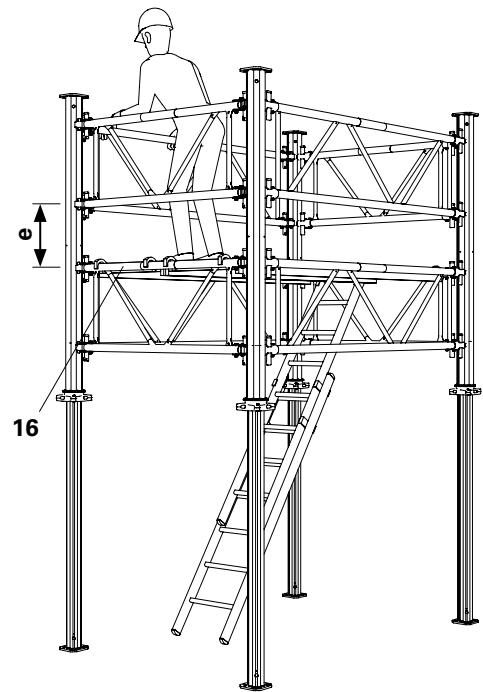

Fig. A4.03
- In order to mount the next prop and frame level, an assembly level (**16**) must be installed, e.g. MULTIPROP Decking. (Fig. A4.03)